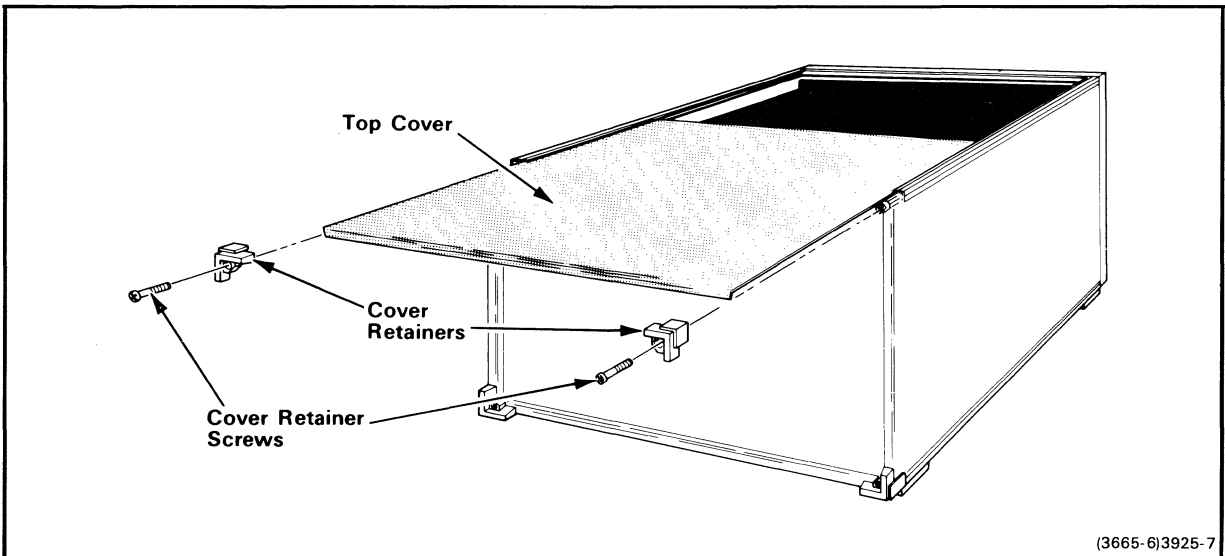

Fig. 3-1. Removing the cover retainers.
2. Remove the upper left and upper right cover retainers. See Fig. 3-1.